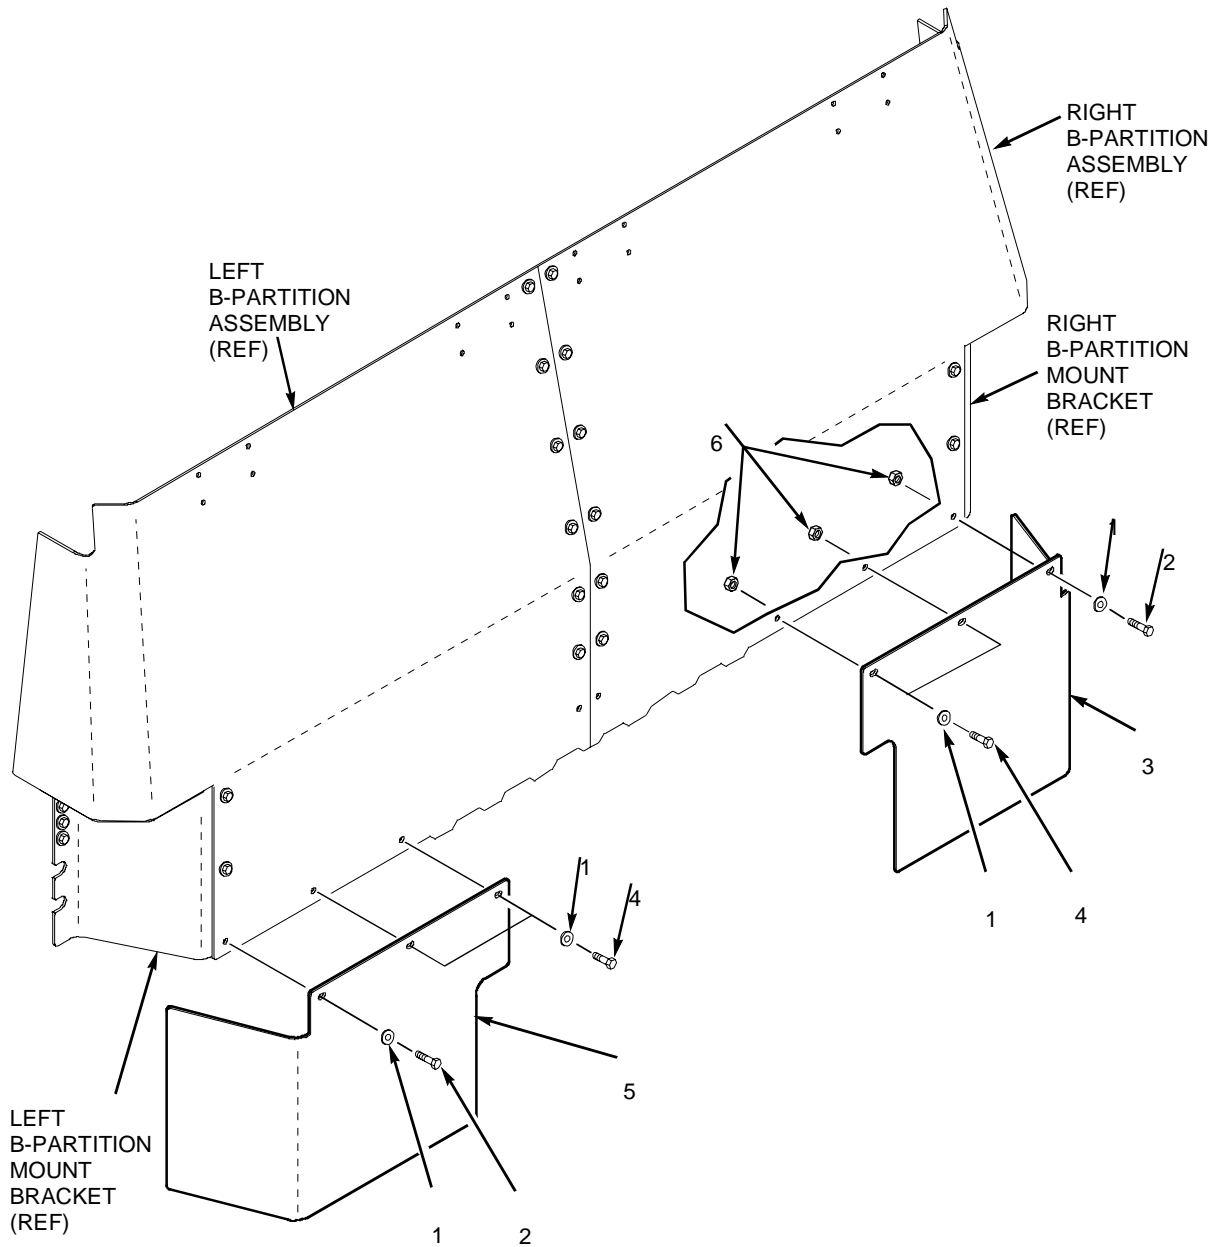

Figure 1-19. Lower B-Partition Installation (2 Door Only)
- 4) Install lower B-partition as follows (see figure 1-19).
- a. Install right lower B-partition (3) onto right B-partition assembly securing with two capscrews (4), one capscrew (2), three washers (1) and three locking nuts (6). Torque two capscrews (4) and capscrew (2) to 37 lb ft (50 N•m).